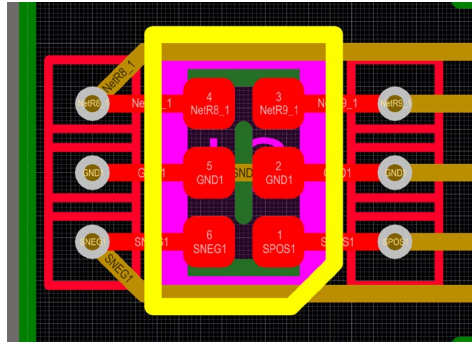

Figure 4: Examples of Symmetrical Routing
- Symmetrical routing improves sensor self-alignment (Figure 4) during assembly – **MANDATORY**.